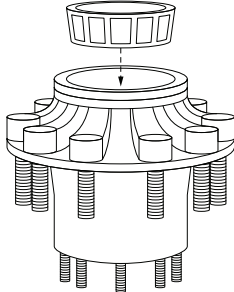

Figure 4
- 5.) Lubricate the inner bearing cone with the proper wheel end lubricant and install it into the inner bearing cup (see Figure 4).